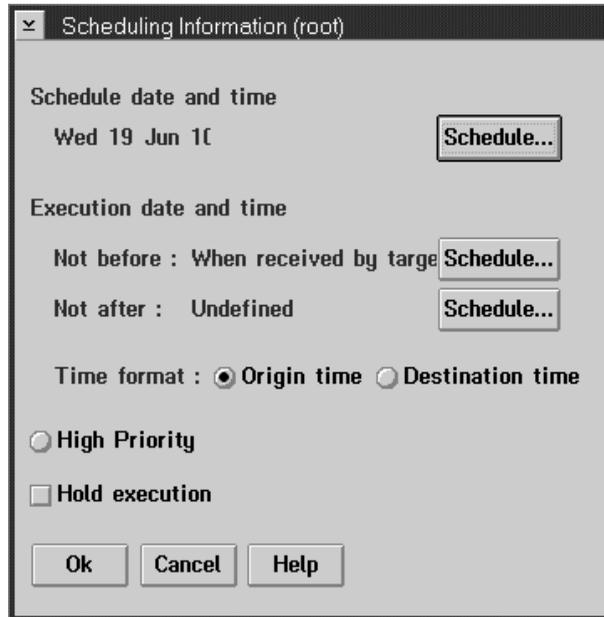

Figure 73. Scheduling information window
- 9 Enter the new time and date and click on the **OK** push button. The Scheduling Information window is displayed again, as shown in Figure 73 on page 165.